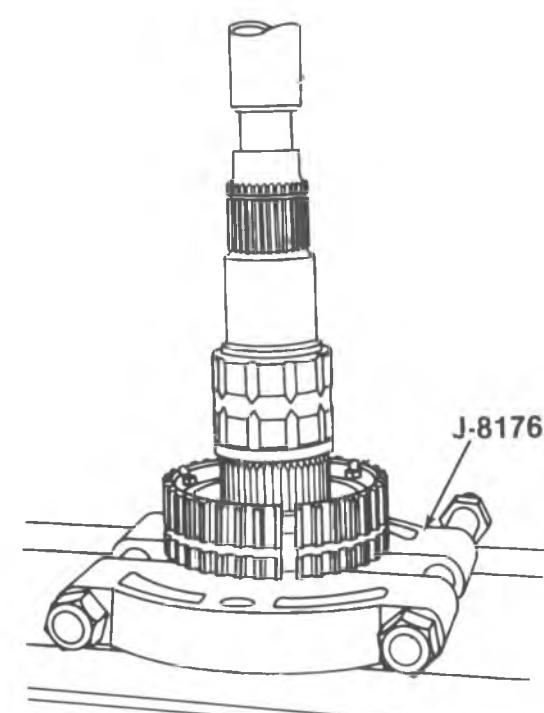

Figure 37—Installing the 1st and 2nd Synchronizer
3. 1-2 synchronizer hub (210), (figure 37).